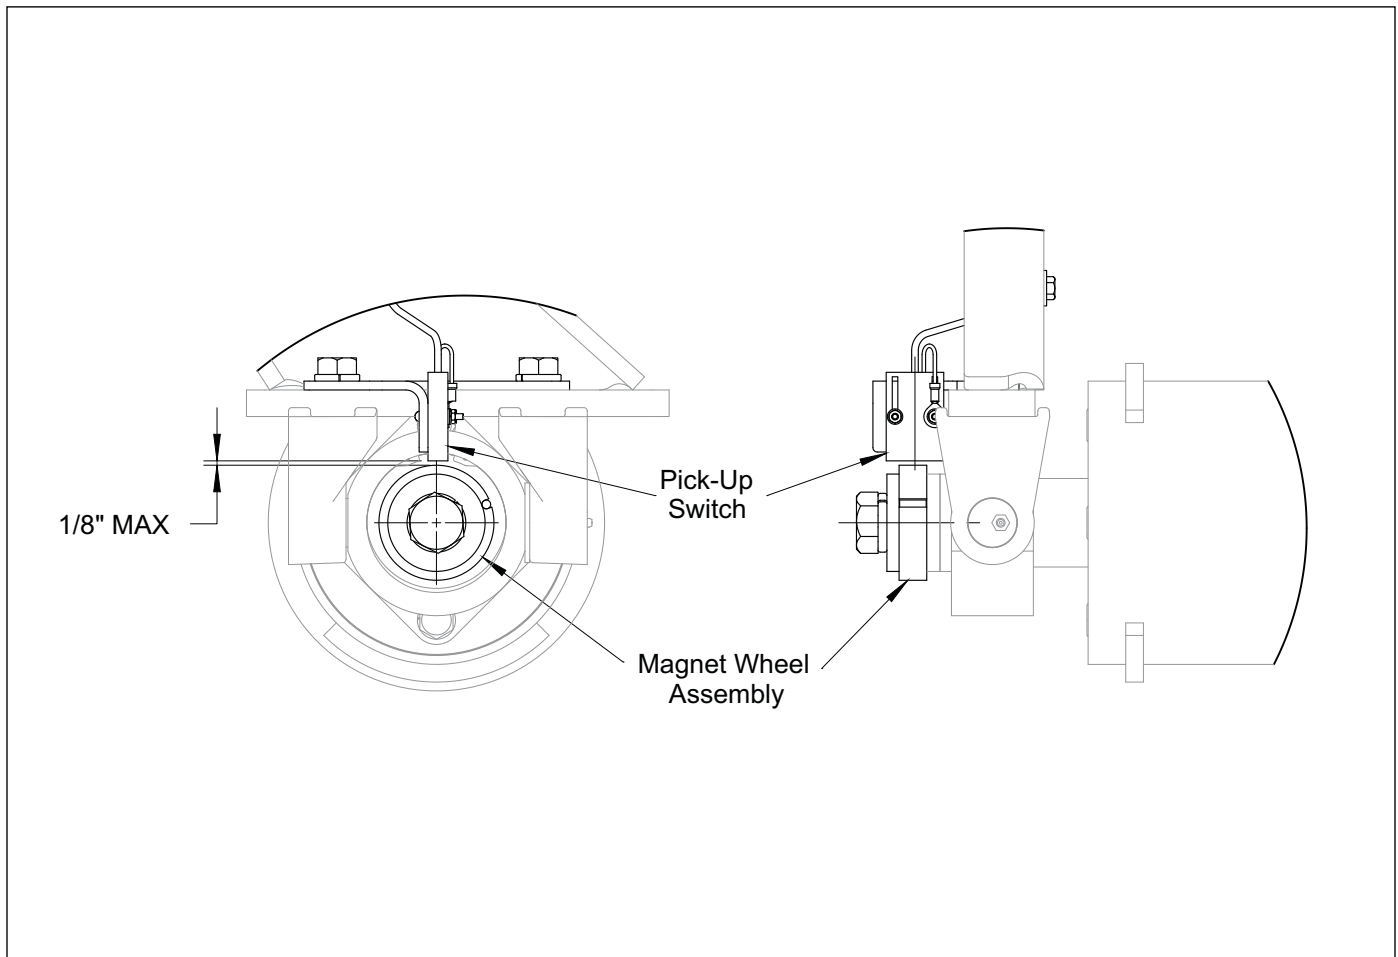

Figure 2-25: Pick-Up Switch Side View
5. Adjust the Acre Meter Switch so the center line of magnet wheel and pickup switch are horizontally and vertically aligned with a maximum 1/8" between magnet wheel and pickup switch. Now firmly tighten all screws. **See Figure 2-25.**